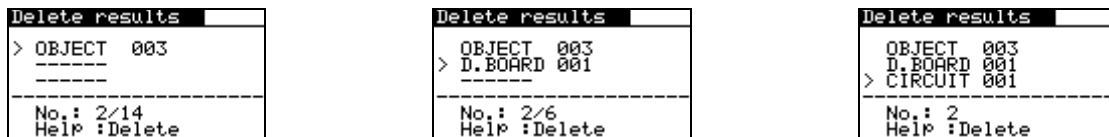

Figure 6.8: Examples of menus for selection of memory location
Step 2 To delete saved result(s) the memory location must be selected first: The **Object** line can be selected with the ▲/▼ keys. Use the </> keys to select the appropriate 'Object' memory location (three-digit number). In the lower part of the display, two numbers will be displayed (e.g. No.:2/16 see figure 6.8):
The **D. Board** line can be selected with the ▲/▼ keys. Use the </> keys to select appropriate 'D. Board' memory location (three-digit number). In the lower part of the display, two numbers will be displayed (e.g. 6/16 see figure 6.8):